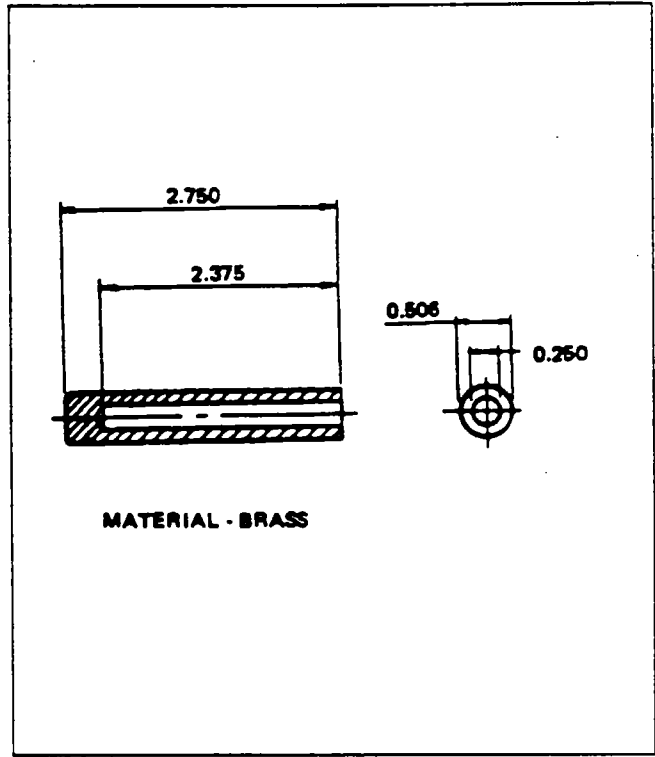

Figure 74-18. Ferrule Seating Tool 11-7074
- H. Provide a back up support for the cover, and seat the ferrule, using the 11-7074 Ferrule Seating Tool (Refer to Figure 74-18 and a mallet. Ferrule must be driven straight into the cover and fully seated.